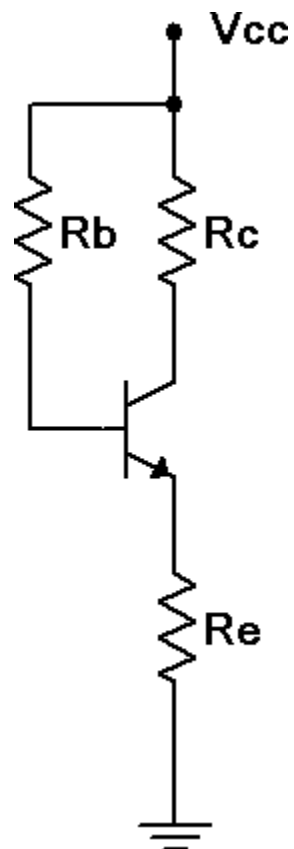

Figure 2
8. Consider the circuit of Figure 2 using  $V_{cc} = 12$  volts,  $R_b = 220\text{ k}\Omega$ ,  $R_e = 470\text{ }\Omega$  and  $R_c = 330\text{ }\Omega$ . Determine the ideal end points of the DC load line and the Q point, and record these in Table 5.
10. Build the circuit of Figure 2 using  $V_{cc} = 12$  volts,  $R_b = 220\text{ k}\Omega$ ,  $R_e = 470\text{ }\Omega$  and  $R_c = 330\text{ }\Omega$ . Measure the base, emitter and collector voltages and record them in the first row of Table 6 (Experimental).